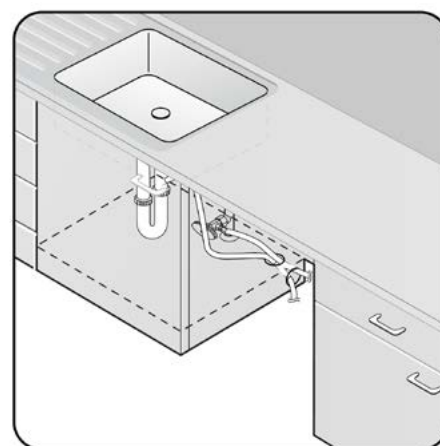

Figure 1-2
2. If the base inside the sink cabinet is raised above the kitchen floor and is higher than the connections on the dishwasher, make a hole in the base inside the cabinet and in the cabinet side as shown in Figure 1-2. **NOTE:** Depending on where your electrical outlet is, you may need to cut a hole in the opposite cabinet side.